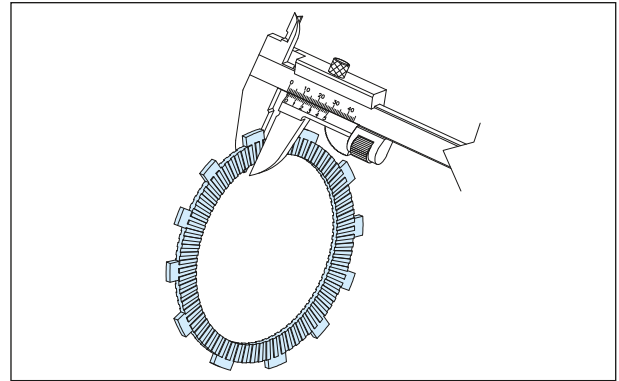
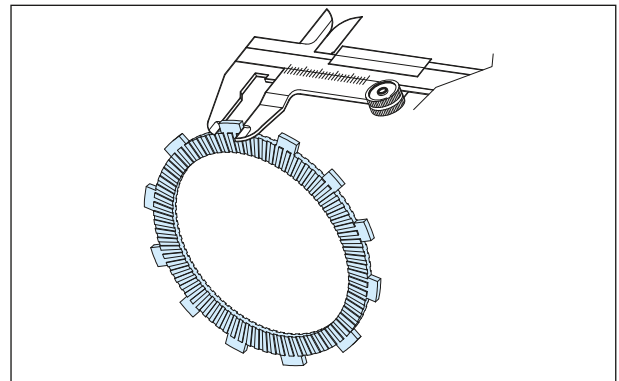

Fig. 3.102
Fig. 3.103
- Measure the thickness and claw width of plate clutch drive (5 nos.) using special tool. (Fig. 3.102 and Fig. 3.103)